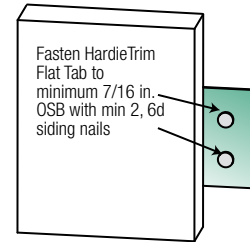

**Figure 21**
**Step 1:** Attach HardieTrim Flat Tabs to the back side of the trim using four, 18 ga. 1/2 in. L x 1/4 in. W narrow crown corrosion resistant staples, equally spaced in one row, positioned no closer than 1/2 in. from trim edges using a pneumatic staple gun. (figures 21, 22)
Terminate ends of the Band Board into Trim or Siding or miter cut the edges of the trim at the corners of the building. Place a HardieTrim Flat Tab at the end of each trim board and one tab every stud at a maximum of 16 in. O.C. The HardieTrim Flat Tabs should be attached to the trim in an alternating pattern to the top and bottom of the band board (figures 21, 22). Use 16 ga. galvanized 2 in. long finish nails to ensure proper fastening if needed.